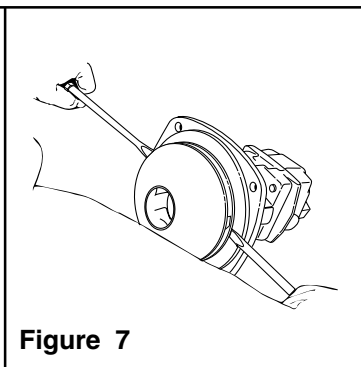

Figure 7
- Once nut *[and washer]* is removed, place a screwdriver on each side behind the Impeller and pry away from the Mounting Flange (See Figure 7). Remove Woodruff Key from the Shaft. Remove O-ring from the Mounting Flange.